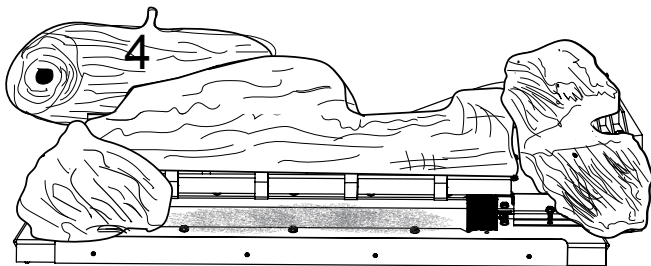

Figure 5.14 - Log #4 Placement
5. Hold log #4 with the pointed end toward the right. Place log #4 by positioning the pin locator hole on the bottom of the log over the rear left pin on the burner assembly toward the back and resting the left end of the log over log #3. Make sure that the flat surface on the back of the log rest against the rear bend on the burner assembly. See Figure 5.14.